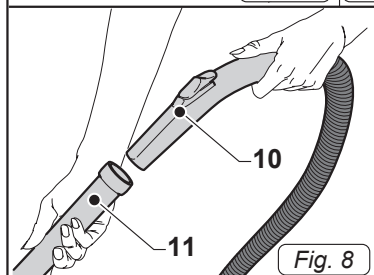

Fig. 8
- Connect the extension rods together (11 Fig.8) and insert the ergonomic hose handle (10 Fig.8) into the extension rod.